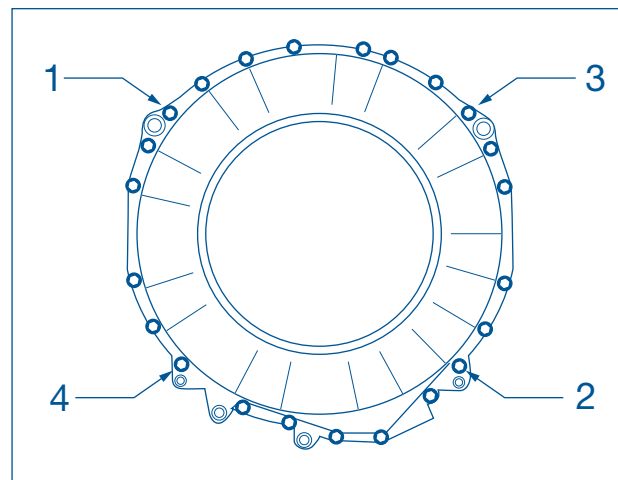

Figure 4-59.
13. Reverse procedure to reassemble using illustration below to show outer tub screw tightening sequence. (See Figure 4-59)